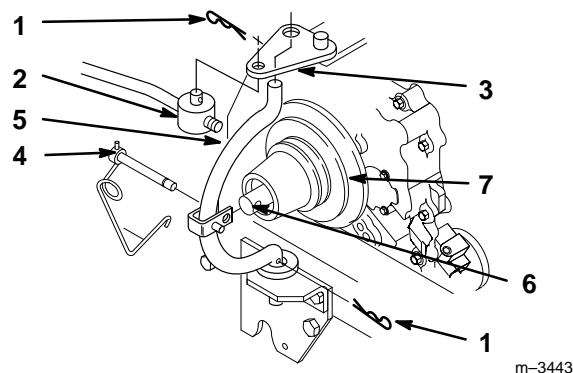

Figure 5
10. Remove hairpin cotters from trunnion and bottom of yoke (Fig. 5).
11. Unlatch and remove locking clevis pin that secures yoke assembly to clutch shaft. Pivot yoke out and forward to remove from clutch shaft and engagement plate (Fig. 5).
12. Place belt in inside pulley groove (Fig. 5).
13. Assemble yoke and engagement plate and attach locking clevis pin, trunnion and hairpin cotters to secure (Fig. 5).